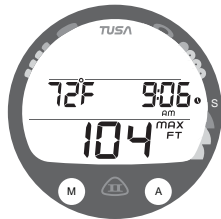

Fig. 53 - NO DECO ALT 1
**NORM No Deco ALT 1**, information includes (Fig. 53) -